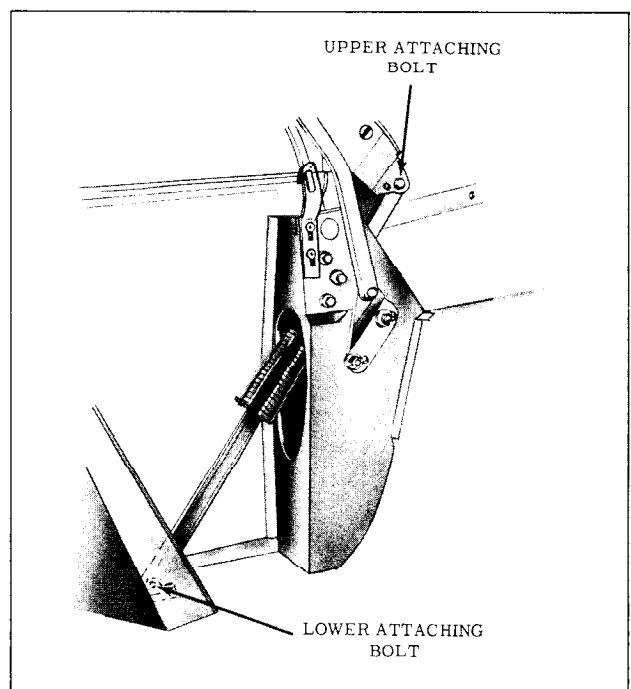

Fig. 15-80 "Counter-Balanced" Lift Assembly
3. Remove upper and lower attaching bolts. Raise upper end of lift assembly, then move lower end of lift assembly up and forward until lift assembly is clear of oblong hole in top compartment brace. (Fig. 15-80)
4. To install lift assembly, reverse removal procedure making sure that upper end of lift is attached to the rearmost hole in the side roof rear rail assembly. (Fig. 15-80)